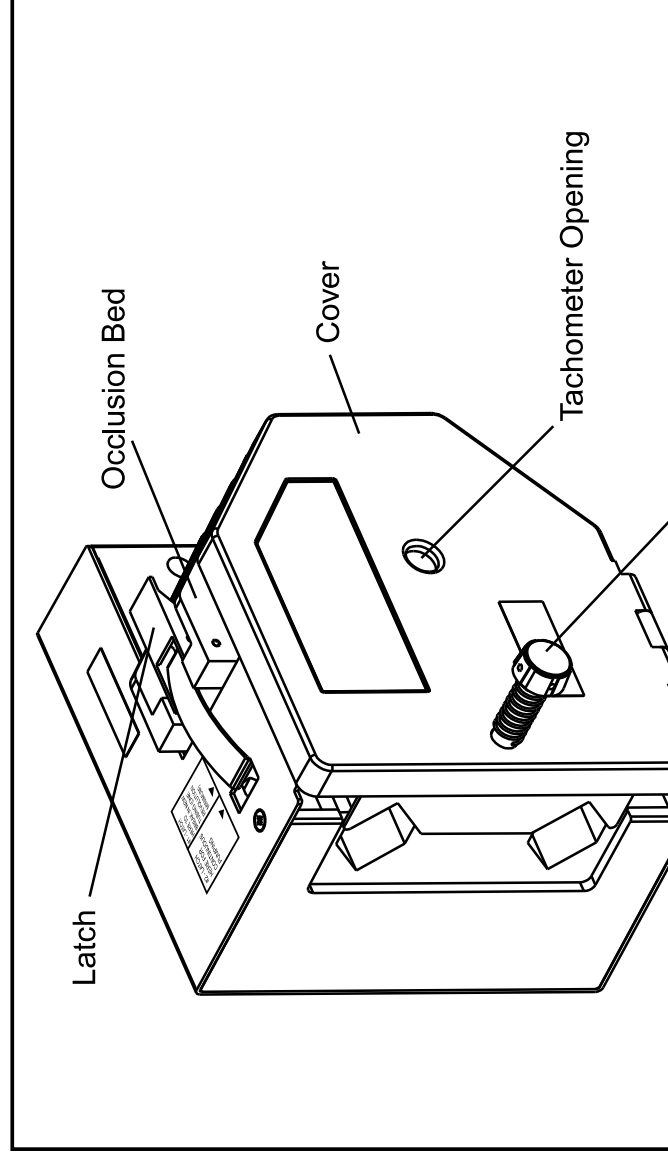

**Figure 1. Mounting Holes for Console Drive, 07549 Series**
- c. When using MASTERFLEX console drives, 07549 series, use the updated drive mounting plate (stamped with an "X") included with the pump head. Mount the plate so that the stamped "X" is at the top and facing you. Then mount the pump according to Figure 1. Use the holes labeled "A" for left tubing entry/exit pump orientation; use holes labeled "B" for top entry/exit orientation.